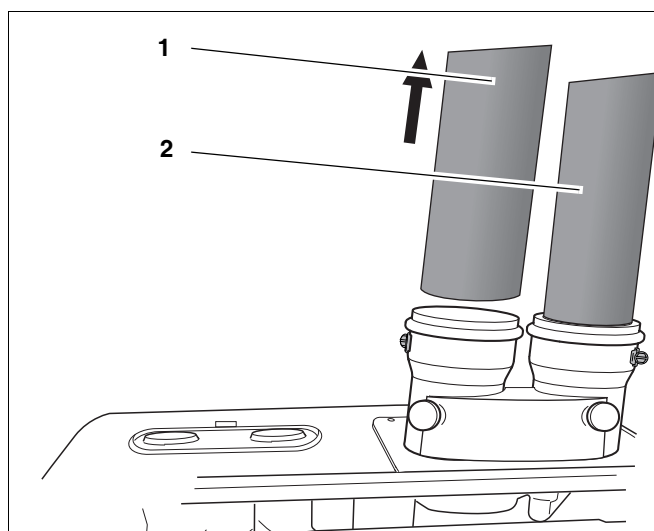

fig. 104 Loosening the combustion air supply and flue gas exhaust connections
- Pull the combustion air supply (see fig. 104, pos. 2) and flue gas exhaust (see fig. 104, pos. 1) connections on top of the boiler upwards to remove them.